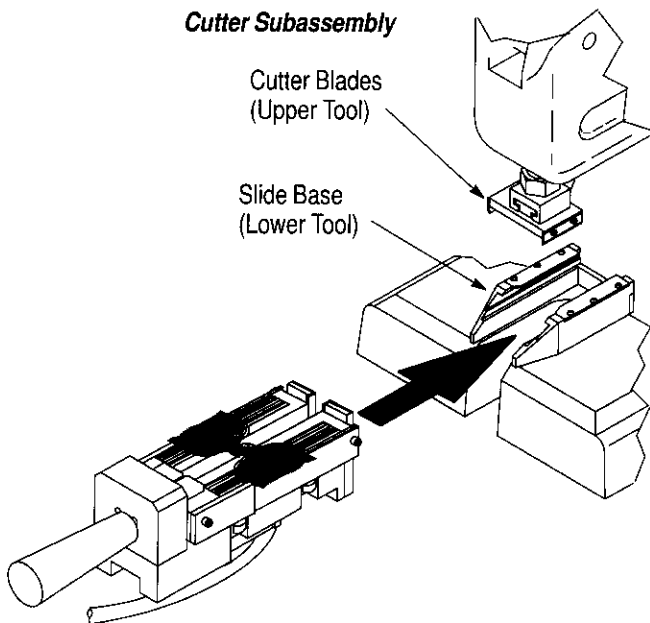

Figure 9
Once all wires have been properly laced, the tooling assembly is removed from the bench mount and placed in the cutter subassembly as shown in Figure 9. The subassembly is designed for mounting on the miniature manual frame assembly with the cutter blades used as the upper tool and the slide base used as the lower tool. The cutter is used to trim off the wire ends even with the outermost edges of the insertion bars.
The cutter subassembly is designed for mounting on the Miniature Manual Frame Assembly. The cutter blades are used as an upper tool and the slide base is used as a lower tool mount to hold the lower tooling assembly in place during cutting. Refer to Figure 9 and proceed as follows:
5. Remove lower tooling assembly from bench stand mount and slide it into cutter subassembly. See Figure 9.
10. Flip connector positioner over and slide onto lower tooling assembly with connector in place. Be sure positioner is against step on top plate of pivoting arms. Tighten thumbscrew (see Figure 9).